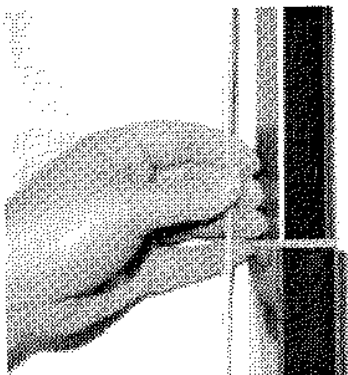

Fig. 2
3. Continue cranking until the limit cable is almost tight. The gray limit cable is located directly above the crank position. Fig. 2
8. Now, complete raising roof until gray limit cable is snug. **DO NOT OVERTIGHTEN.** Fig 2